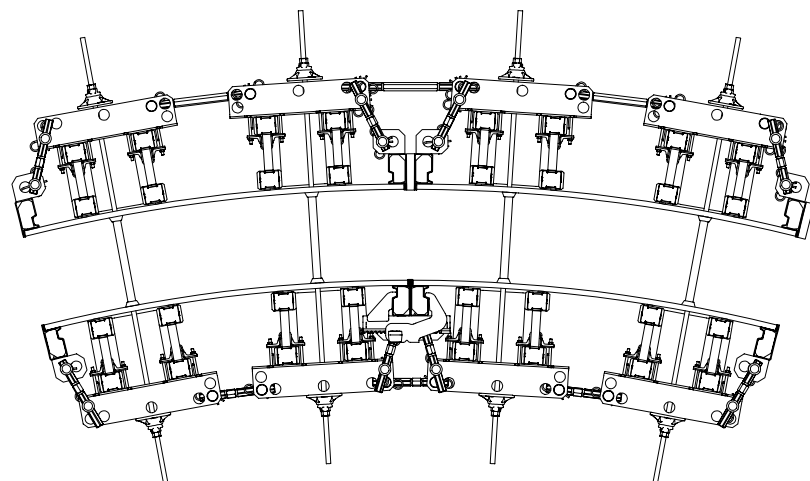

Fig. A10.02
- Anchoring without distribution walers always takes place whenever tight working areas do not allow higher formwork assembly and directly in front of stopend formwork, see A11. (Fig. A10.02)